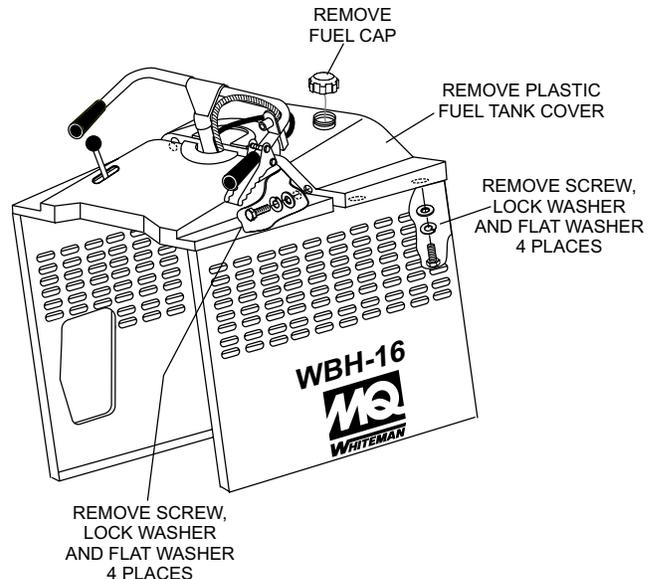

Figure 5. Fuel Tank Cover Removal
2. Next, remove the 8 screws and associated hardware that secure the fuel tank cover (Figure 5) to the buggy.